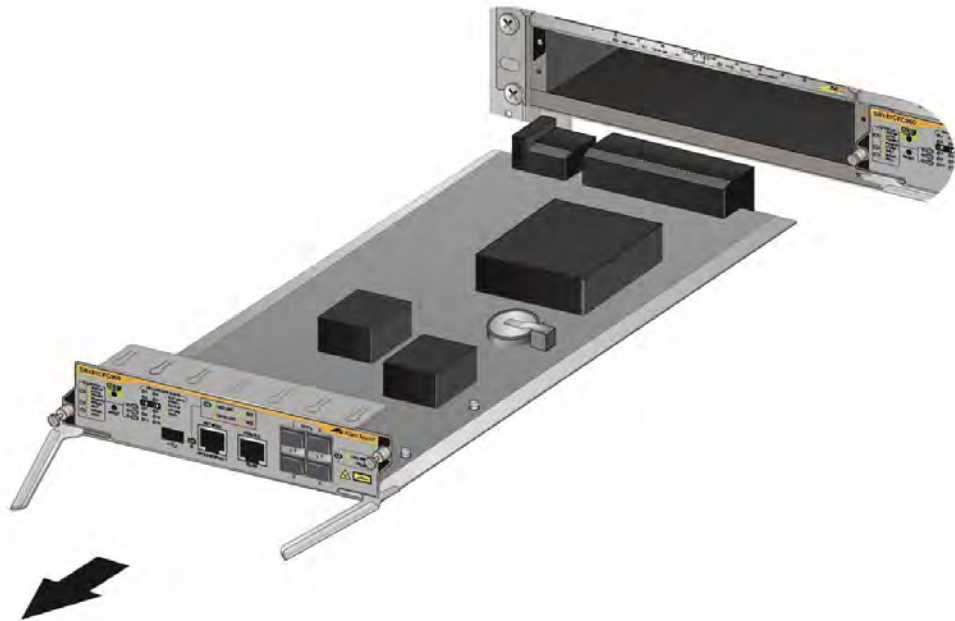

Figure 185. Removing the AT-SBx81CFC960 Controller Card
5. Carefully slide the controller card from the chassis. Refer to Figure 185 on page 290.